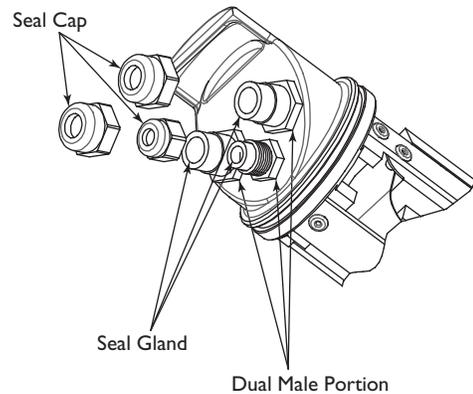

Figure 3 Liquid Tight Fitting Assembly
1. The dual male threaded portion of the three liquid tight fittings, two NPT 1/2-inch, and one NPT 3/8-inch, located in the rear of the cradle, are provided preinstalled. Do not remove or loosen these parts. They have been installed to a specified torque to prevent entrance of water. The two large fittings are supplied with seal glands for cables with diameters from 4.3 mm (0.17-inch) to 11.9 mm (0.47-inch). The small fitting will accept cables with diameters from 4.6 mm (0.181-inch) to 7.9 mm (0.312-inch) (see **Figure 3**).